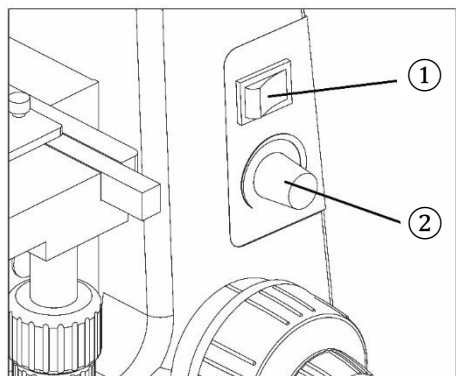

Fig. 18
4.2.1. Adjusting the brightness (Fig. 18)